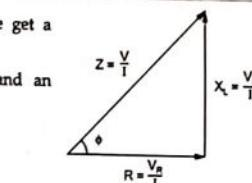

Fig. 3.5.2 Impedance triangle
- If all the sides of the voltage triangle are divided by current, we get a triangle called **impedance triangle** as shown in the Fig. 3.5.2.